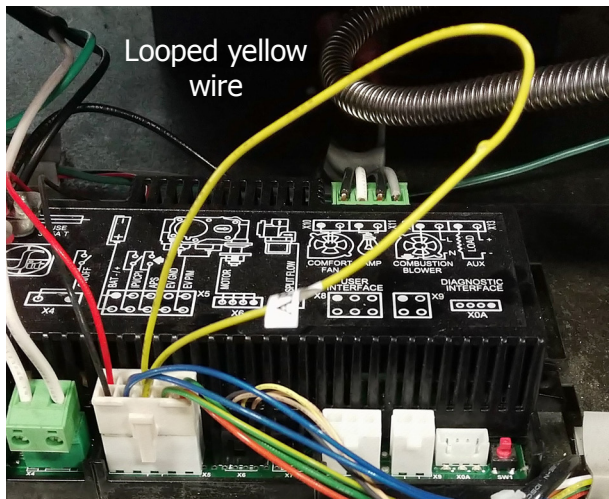

Figure 20: Location of the pressure switch wire
b. Locate the looped yellow wire within the wiring harness of the large white plug shown in Figure 20. Note: the wiring harness cable tie may need to be cut for slack, replace the cable tie upon completion.